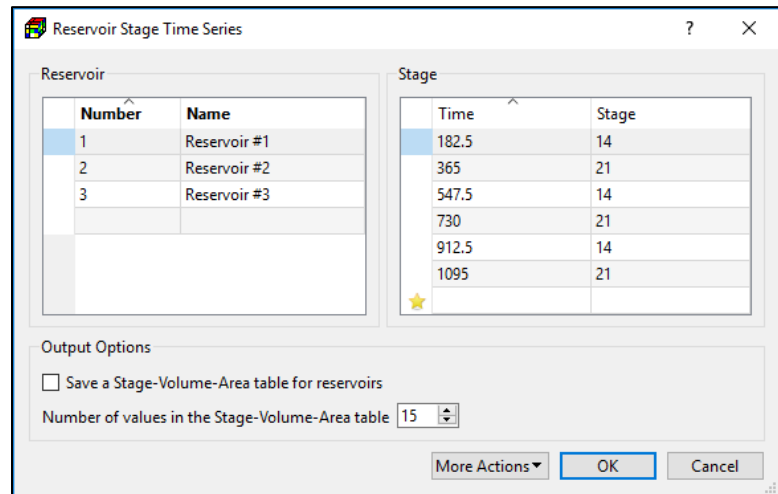

Figure 66. The Reservoir Stage Time Series dialog box
- **Stage:** Click this button to open the Reservoir Stage Time Series dialog box (Figure 66) for specifying the water table elevations of reservoirs.